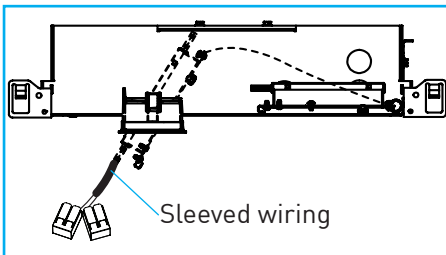

Fig.52
E. Driver sled is accessed through housing aperture. Pull on sleeved wires to release driver sled “Fig.52”.
F. Rotate driver sled assembly as required to facilitate guiding down, through and just below trim aperture “Fig.52”.